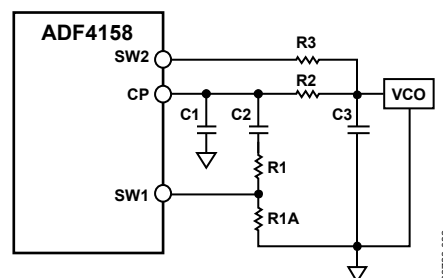

Figure 44. Fast-Lock Loop Filter Topology—Topology 1
- Divide the damping resistor (R1) into two values (R1 and R1A) that have a ratio of 1:3 (see Figure 44).